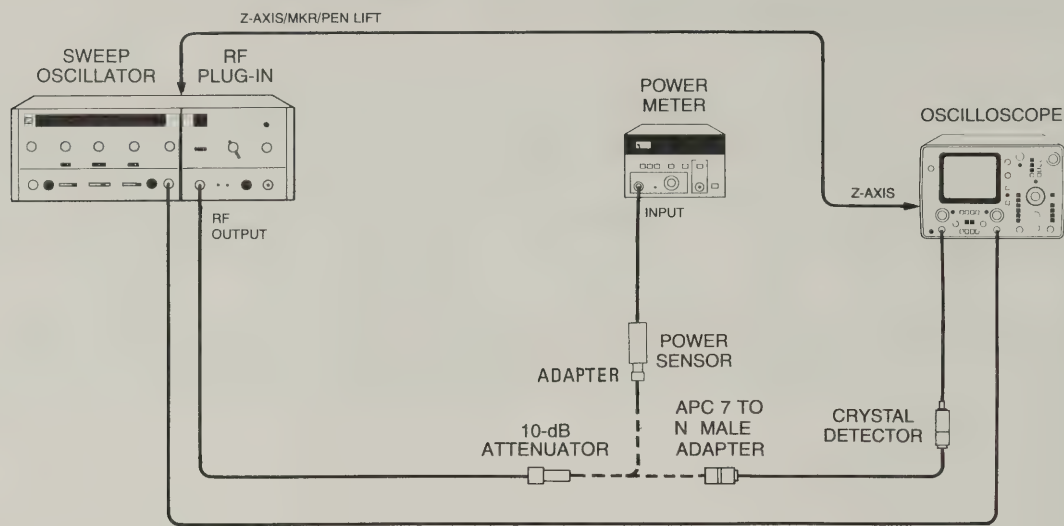

Figure 4-7. Internal Leveling Test Setup
Equipment listed is for three test setups (Figures 4-7, 4-8 and 4-9).
- a. Connect equipment as shown in Figure 4-7 with RF OUTPUT connected to the oscilloscope. Set controls as follows:
- d. Connect equipment as shown in Figure 4-7 with RF OUTPUT connected to power sensor and power meter.
- g. Connect equipment as shown in Figure 4-7 with RF OUTPUT connected to crystal detector and oscilloscope. Adjust oscilloscope to establish +10 dBm reference on top horizontal graticule.
- h. Connect equipment as shown in Figure 4-7 with RF OUTPUT connected to power sensor and power meter. Adjust 86290B power to +11.4 dBm \pm 0.1 dB. (It may be necessary to change frequency.)
- i. Connect equipment as shown in Figure 4-7, with RF output connected to crystal detector and oscilloscope. Note 11.4 dBm reference point on oscilloscope. Area between this trace position and top graticule line represents leveling to tolerance.